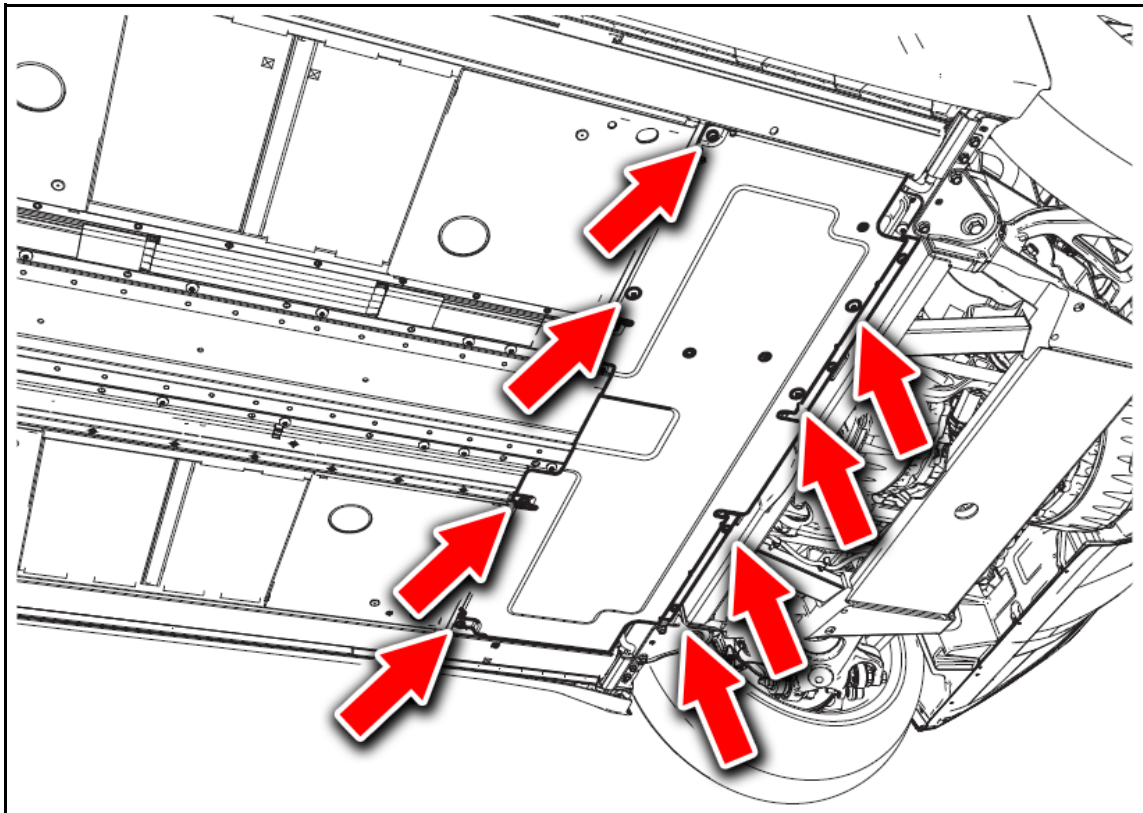

Figure 3B
3.2. Remove the high-voltage closing panel from under the vehicle. Note length of bolts to help with reinstallation (Figure 3B).